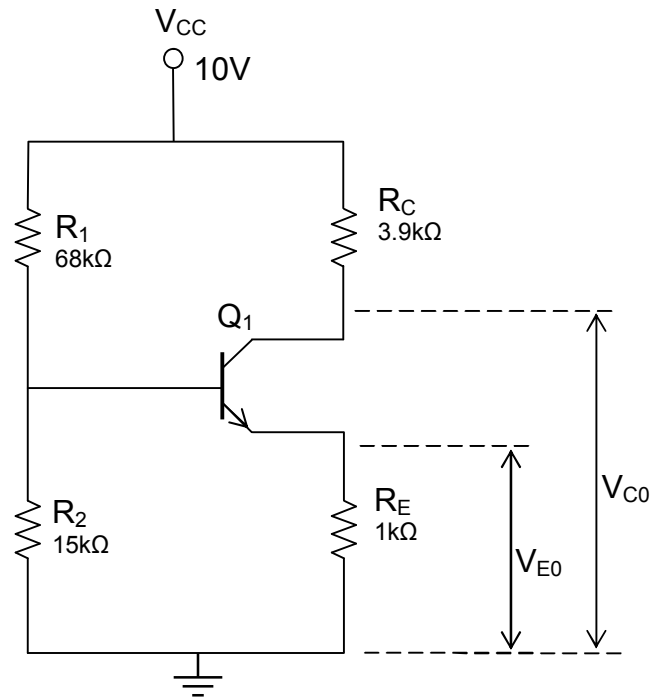

Figure 7.2: Common-emitter circuit for Q-point measurement.
2. Set up the circuit as shown in Figure 7.2 with $V_{CC} = 10.0V$. Use the DMM to measure V_{C0} and V_{E0} . You can calculate $I_E (\approx I_C)$ using V_{E0} and R_E . Then, obtain the Q-point (V_{CE} and I_C). Draw your load line and Q-point on your transistor characteristic.
Figure 7.3: The common emitter circuit of Figure 7.2 with added capacitors and an input signal V_S provided by the function generator and the voltage divider, R_{S1} and R_{S2} .